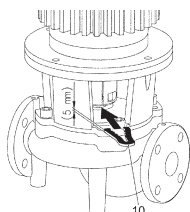

Fig. 16: Positioning the forked spacer
10. Push the forked spacer (Fig. 16, Item 10) between the lantern and coupling. The forked spacer must sit there without any play.
13. Slide the forked spacer (Fig. 16, Item 10) between the lantern and coupling. The forked spacer must sit there without any play.